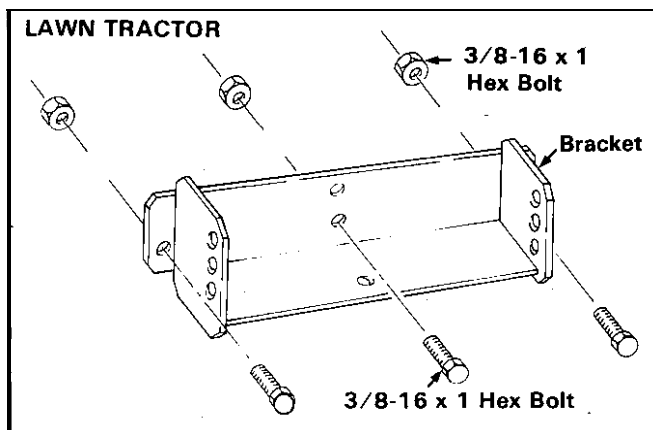
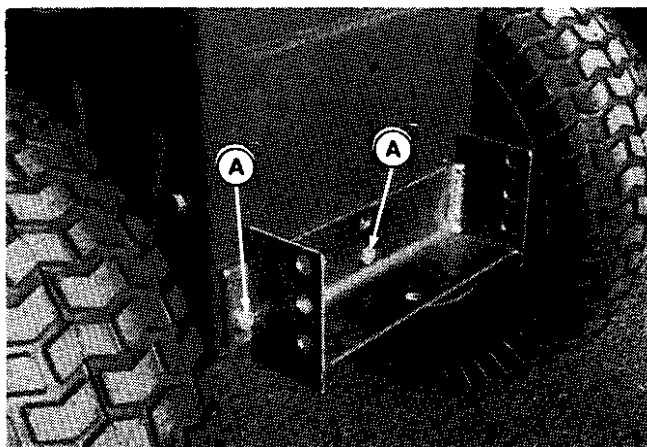

Figure 17.
Figure 18.
2. Install the bracket (figure 17) to the back plate through the same holes where the **drawbar** plate was bolted. Use the **three 3/8-16 x 1 hex bolts and locknuts** (A, figure 18).